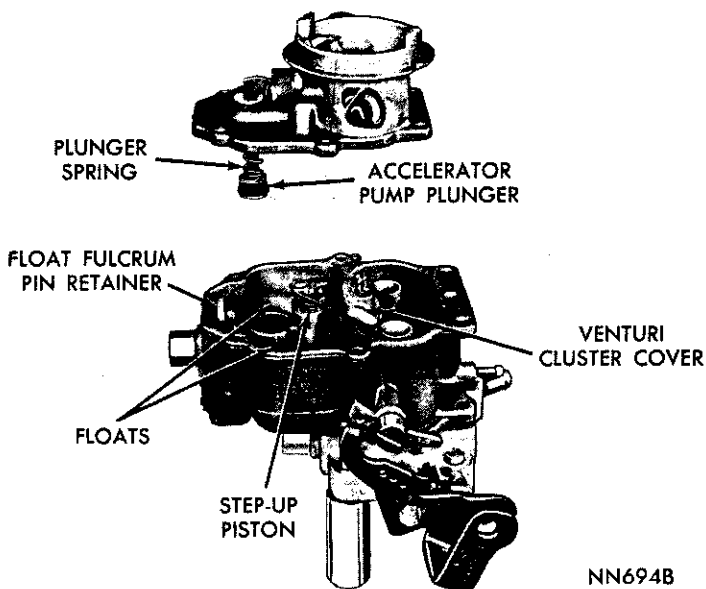

Fig. 3—Removing or Installing Air Horn
- (1) Place carburetor assembly on repair block Tool C-3225.
- (2) Remove hairpin clips and disengage accelerator pump operating rod.
- (3) Remove clips and disengage fast idle connector rod from fast idle cam and choke lever.
- (4) Remove vacuum hose between carburetor main body and choke vacuum diaphragm.
- (5) Remove clip from choke operating link and disengage link from diaphragm plunger (stem) and choke lever.
- (6) Remove choke vacuum diaphragm and bracket assembly and place to one side to be cleaned as a special item. **A liquid cleaner may damage diaphragm material.**
- (7) Remove air horn retaining screws and lift air horn straight up and away from main body, (Fig. 3). Discard gasket. Remove dash pot and bracket (if so equipped).
- (8) Disengage accelerator pump plunger from rocker arm by pushing up bottom of plunger and sliding plunger shaft off hook. Slide plunger out of air horn and remove bowl vent valve, spring seat and